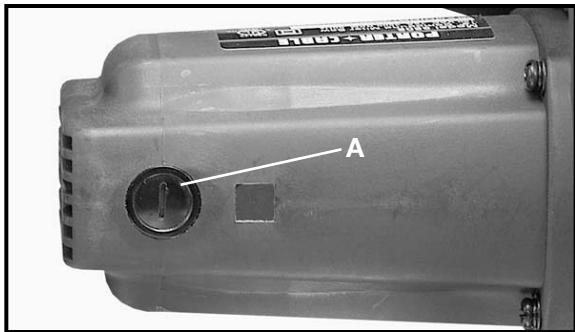
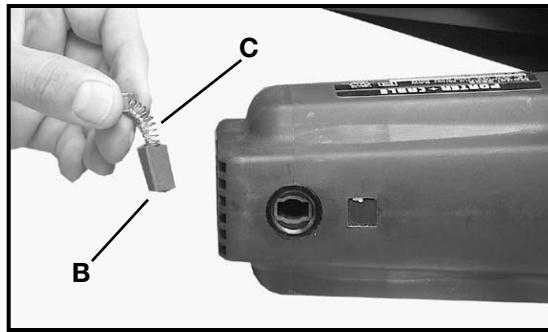

Fig. 49
Fig. 50
The brush holders (A) Fig. 49, are located on the motor housing opposite each other. Fig. 50, illustrates one of the brushes removed for inspection. When the carbon on either brush (B) is worn to $3/16$ " in length, or if either spring or shunt wire (C) is burned or damaged in any way, replace both brushes. If the brushes are found serviceable after removing, reinstall them in the same position.